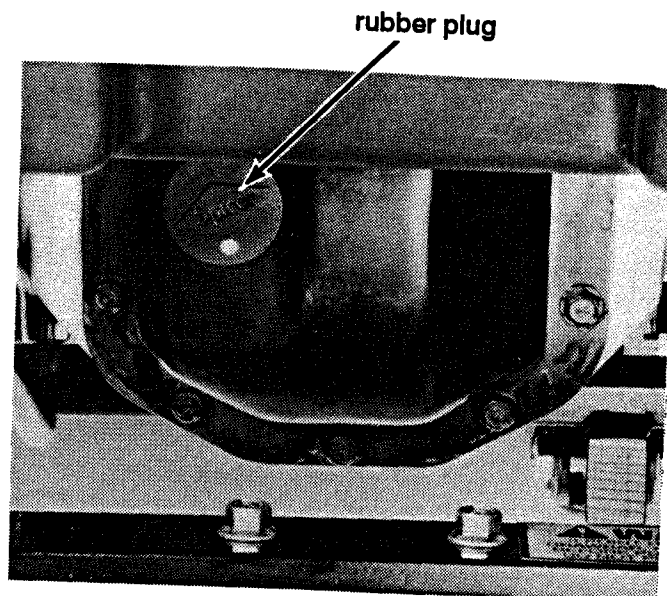

Figure 21. Differential.
The differential (Refer to Figure 21) should be checked and lubricated every 100 hours of tractor use. It is located at the rear of the tractor, under the fuel tank. To lubricate the differential:
1. Clean the exposed area of the rubber plug (Refer to Figure 21) and clean the area around the plug.